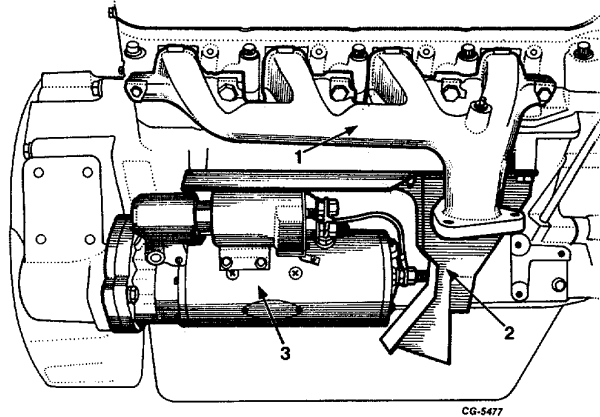

Fig. 12 Remove Exhaust Manifold, Heat Shield and Starting Motor
- b. Remove exhaust manifold heat shield (Figure 12).